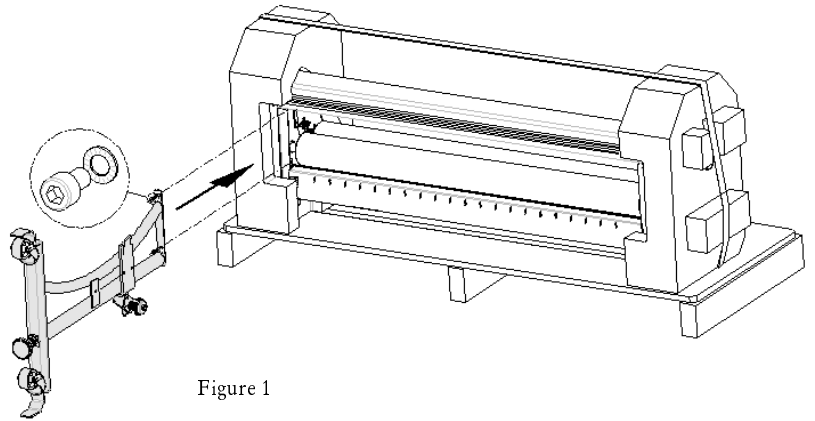

Figure 1
- Mount the left-hand stand leg onto the underside of the laminator, as shown in Figure 1.